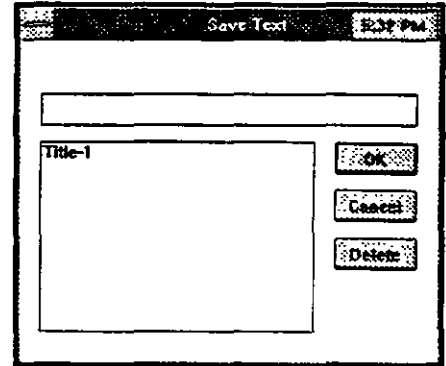

Figure 15-59
- 15.7.3. Save Text and Save Text As** Same as in other menus on the Mapping application title bar, these two commands are used to save a text under an internal name. If the text is a new untitled text you will be prompted to **Save Text As**, that is the program will display a list of existing text names from which you may choose one or assign an entirely new name. The dialogue box with file name selection may look as shown in Figure 15-59. If you are working on an existing, or titled, text, you will have option to **Save Text** under its own name, or **Save Text As** giving it another name.